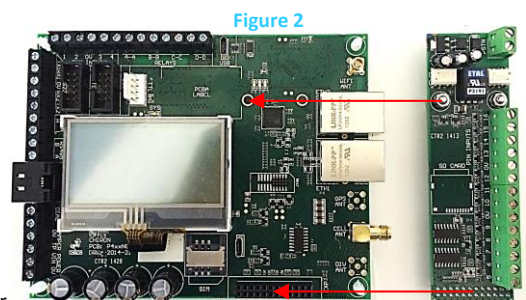

Figure 2
2. Align the expansion board over the expansion socket and mounting holes (see Figure 2).